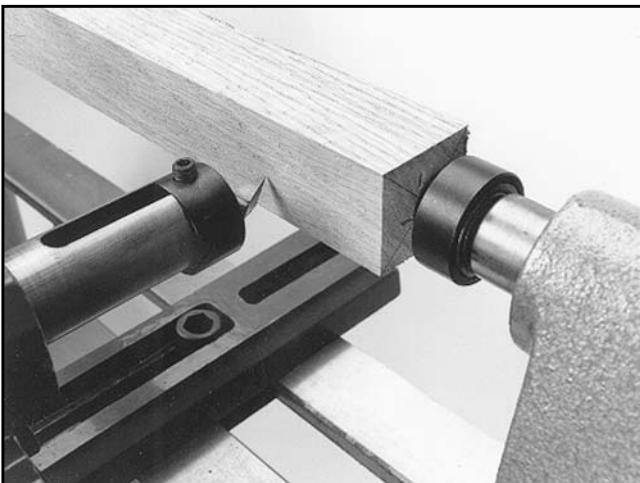

Figure 6. Aligning lathe to copy attachment.
1. Move the carriage to one end of the Copy Attachment and crank the cross-feed hand-wheel until the cutting tool nearly touches the side of the blank. **See Figure 6.**